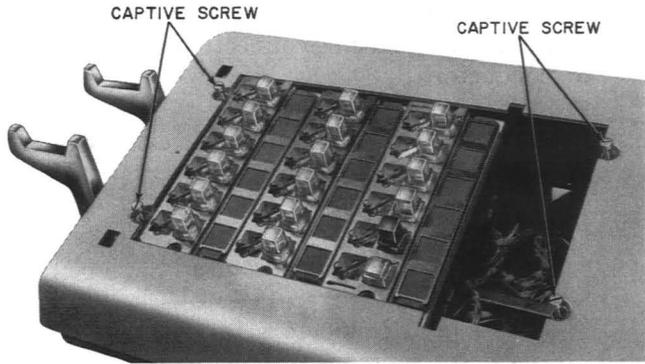

Fig. 6—Typical Housing
- (2) Loosen the captive screws holding the housing and remove the housing (Fig. 6).